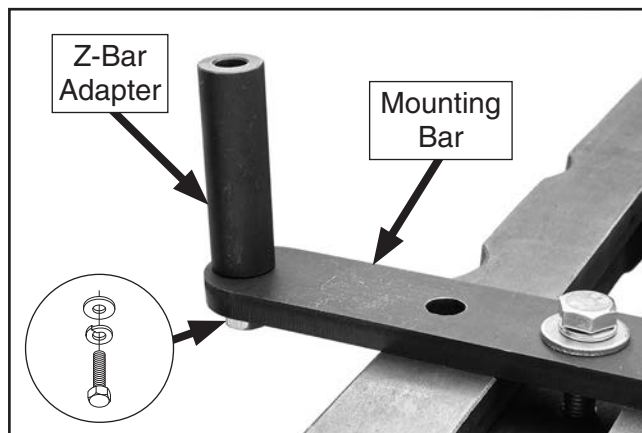

Figure 4. Z-bar adapter attached to mounting bar.
3. Attach Z-bar adapter to mounting bar with M8-1.25 x 25 hex bolt, 8mm lock washer, and 8mm flat washer (see **Figure 4**).